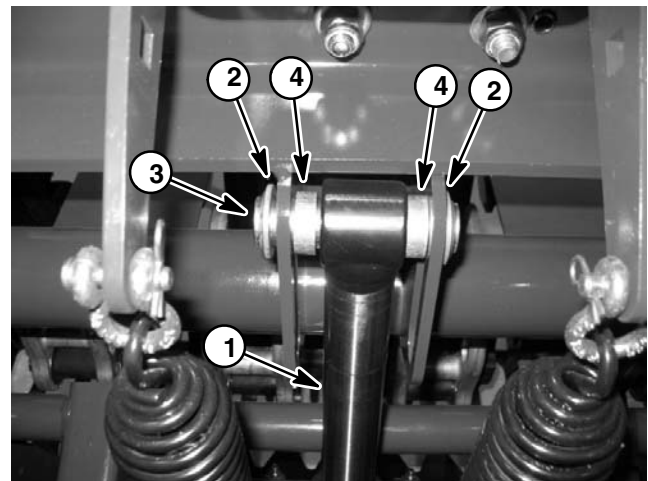

Figure 43
9. Remove one retaining ring from the upper cylinder pin. Pull upper cylinder pin from the lift cylinder and coring head frame. Locate and retrieve spacer and thrust washer from each side of cylinder pivot (Fig. 43).
4. Align upper lift cylinder pivot with slots in the coring head frame. Install cylinder pin making sure that a spacer is on each side of the cylinder pivot and a thrust washer is positioned between coring head frame and retaining ring (Fig. 43). Secure with retaining ring.